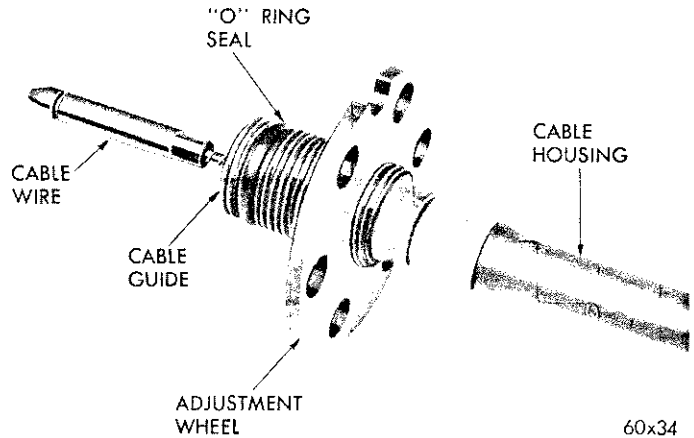

Fig. 12—Gearshift Control Cable and Adjustment Wheel
- (5) Back the adjustment wheel off on cable housing (counter-clockwise) until only two or three threads are showing behind the wheel on the housing (Fig. 12).